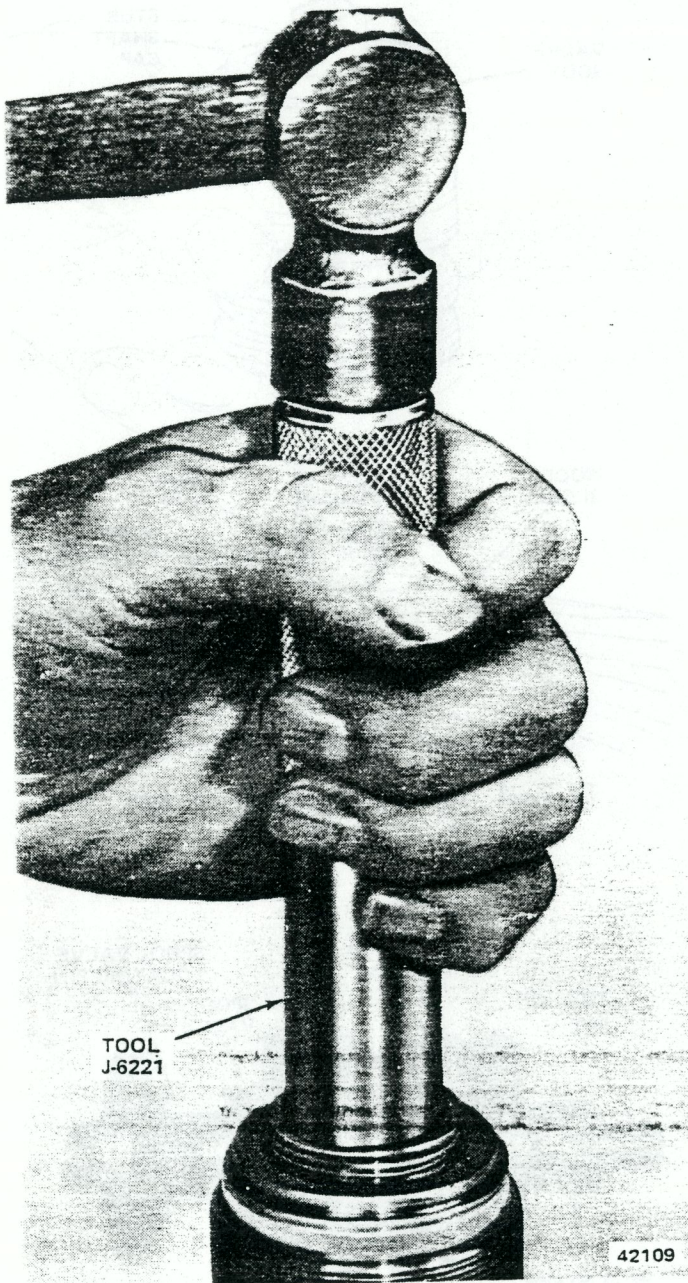

Fig. 2L-25 Adjuster Plug Needle Bearing Removal/Installation
(3) Remove and discard adjuster plug O-ring seal.
(4) Remove stub shaft seal retainer ring and remove and discard stub shaft dust seal. Use screwdriver to pry retainer and seal out of adjuster plug.
(5) Remove needle bearings using tool J-6221 (fig. 2L-25). Discard bearings after removal.